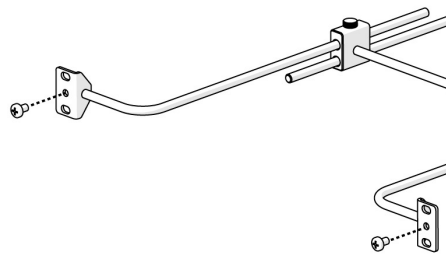

Figure 9. Rear rack mount ears
Step 5. Secure the rear rack mount ears to the equipment rack by tightening the 1/4 phillips-head screws (see Figure 9).